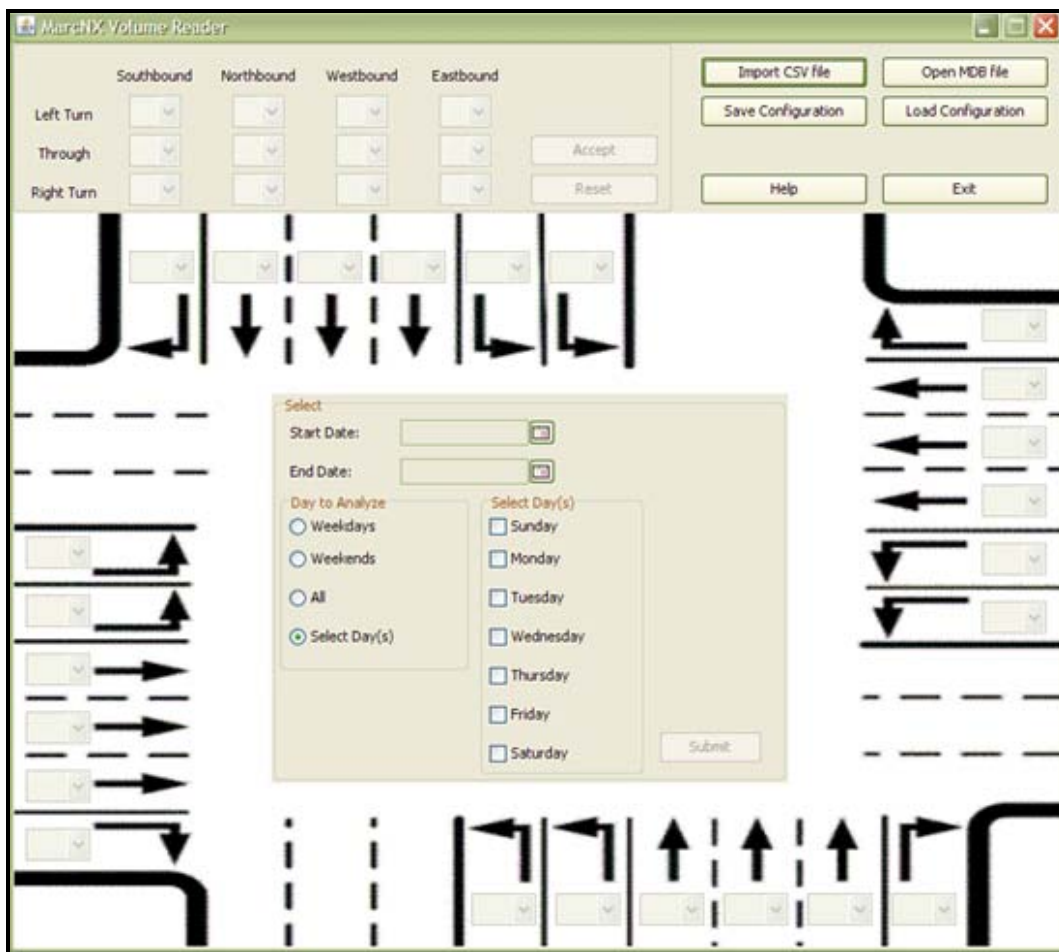

Figure 1. Initial MarcNX screen image.
1. Open the MarcNX Volume Reader.JAR file (Figure 1).
- From the main screen (Figure 1), users can initially select “Import CSV file” or “Open MDB file”. The “Open MDB file” can be used if the data has previously been loaded into the intersection database (see Step #13).